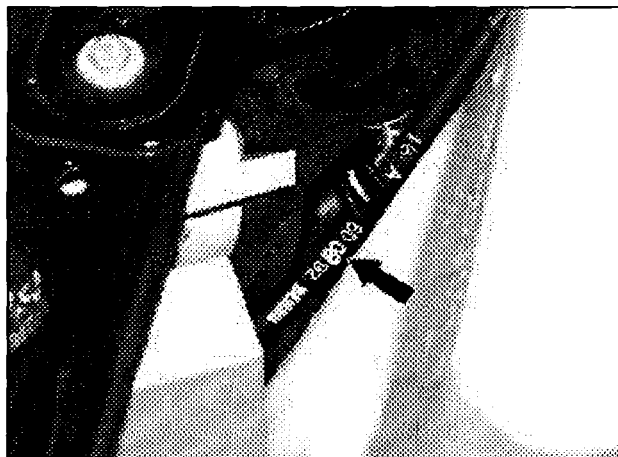
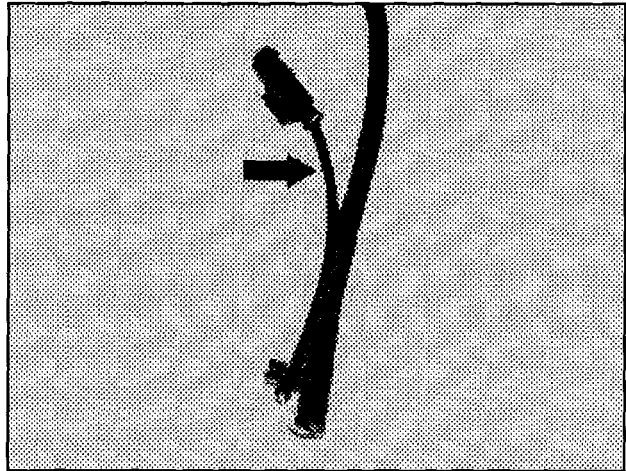
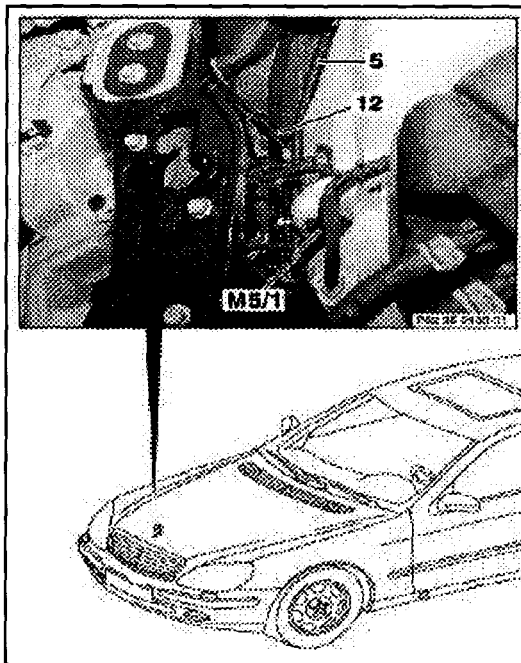

Figure 1
Figure 2
Figure 3
The **faulty** heated washer hose, which is located next to the washer water reservoir behind the right hand headlamp, is identified via both the part number 220 860 08 92 (arrow, Figure 1) **and** a single PVC tube covering both wires (arrow, Figure 2) at the electrical connector.
Single PVC tube covering both wires (arrow, Figure 2) at the electrical connector (12, Figure 3) shown.
13. Disconnect the washer pump electrical connector (12, Figure 3).
19. Reconnect electrical connector (12, Figure 3) for the washer fluid pump.